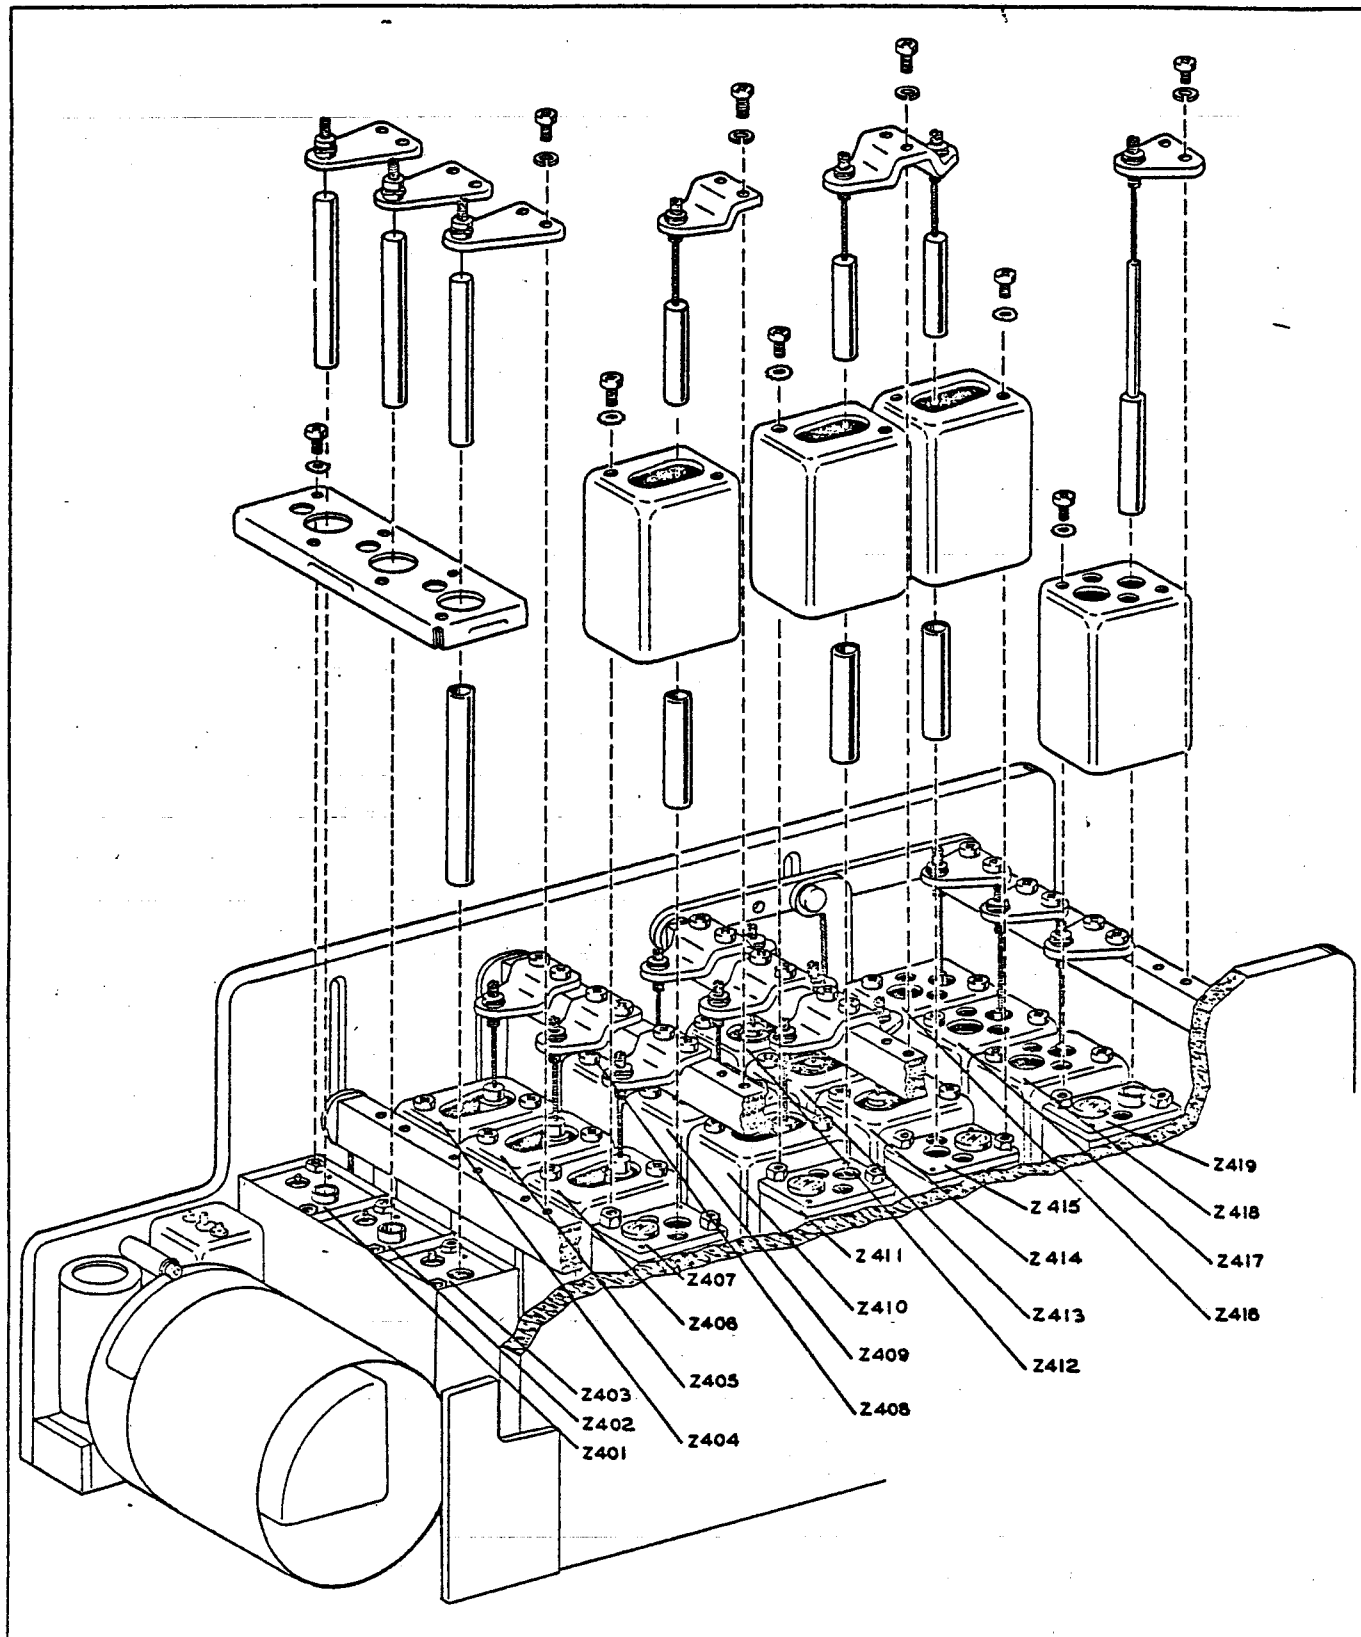

Figure 3-6. R-F and I-F Tuner Assembly, Tuned Circuits, Exploded View
**3-12. REMOVAL OF TUNED CIRCUITS.** Refer to figure 3-6.
### 3-18. REPLACEMENT OF TUNED CIRCUITS. Refer to figure 3-6.